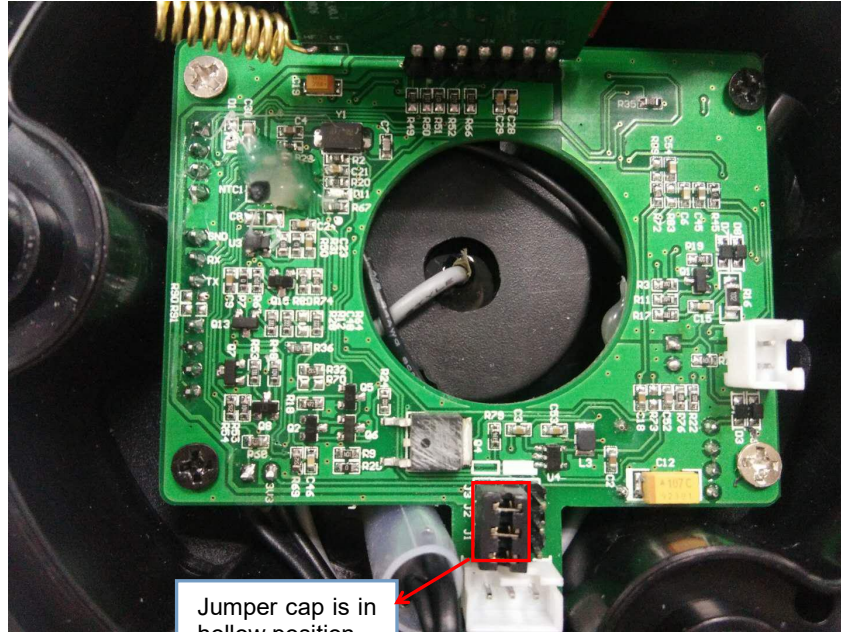

Figure5.5
- 1 Change jumper cap to hollow position (default it is in the solid position) as shown in figure5.5.